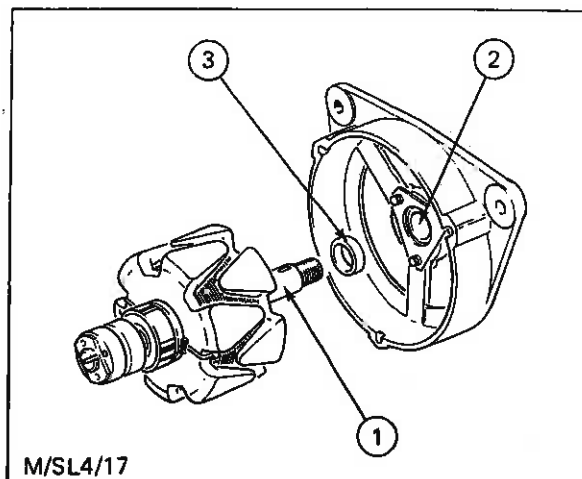

Fig. 24 - Removing Rotor
5. Press rotor shaft (1) from drive end bearing (2), using a bench press. Detach and retain the bearing spacer (3) - see Fig. 24.